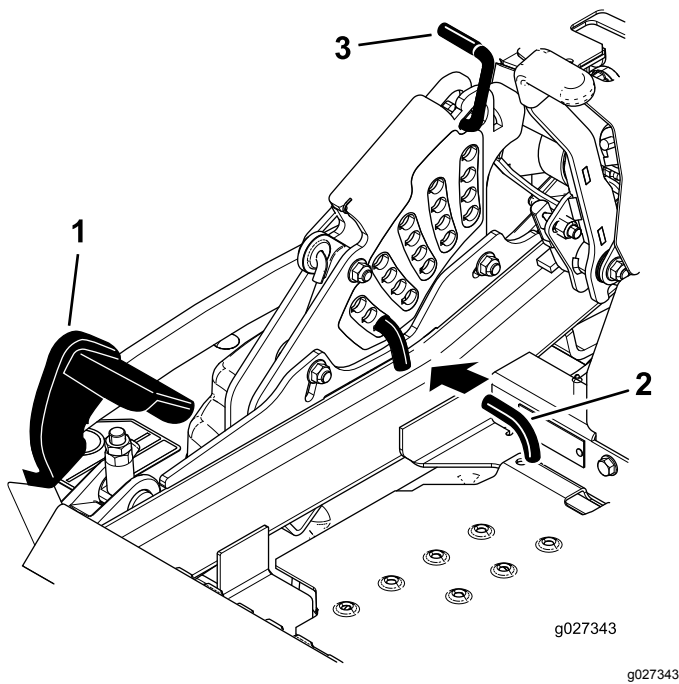

Figure 91
5. Push the deck-lift pedal all the way forward and the deck will latch at the 140 mm (5-1/2 inches) transport position (Figure 91).